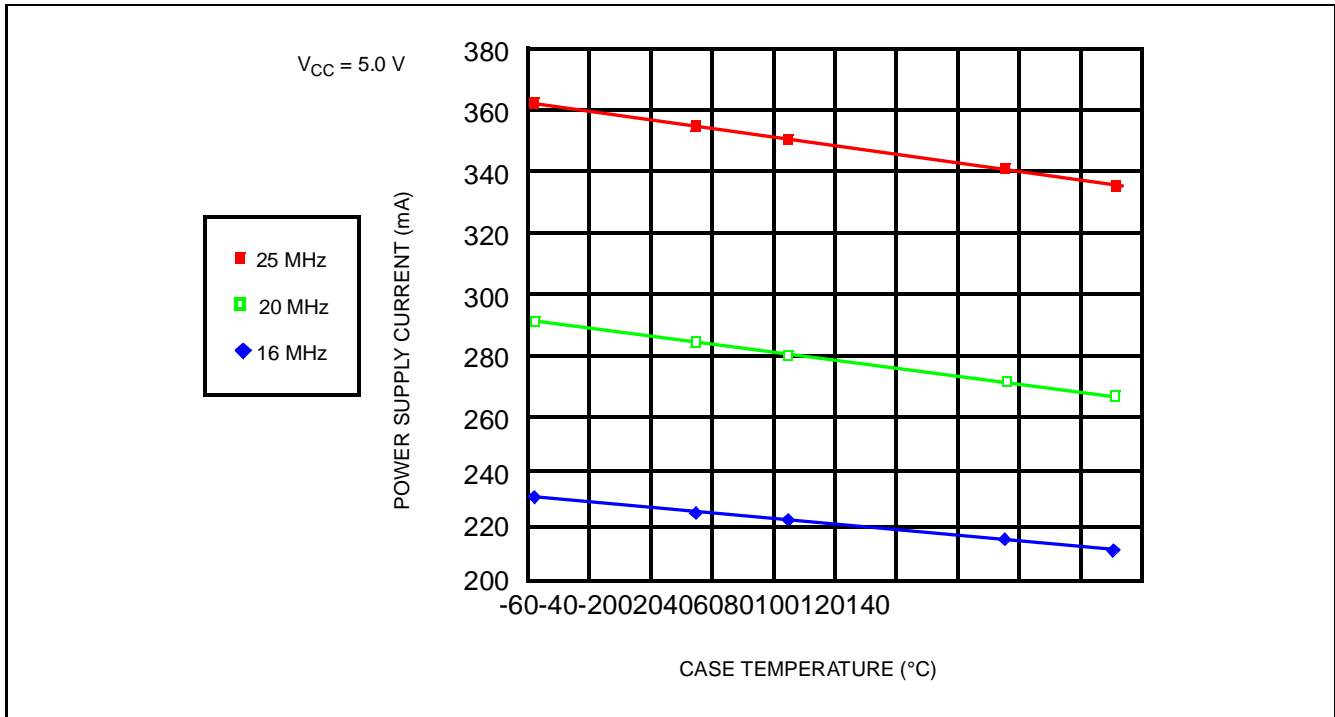
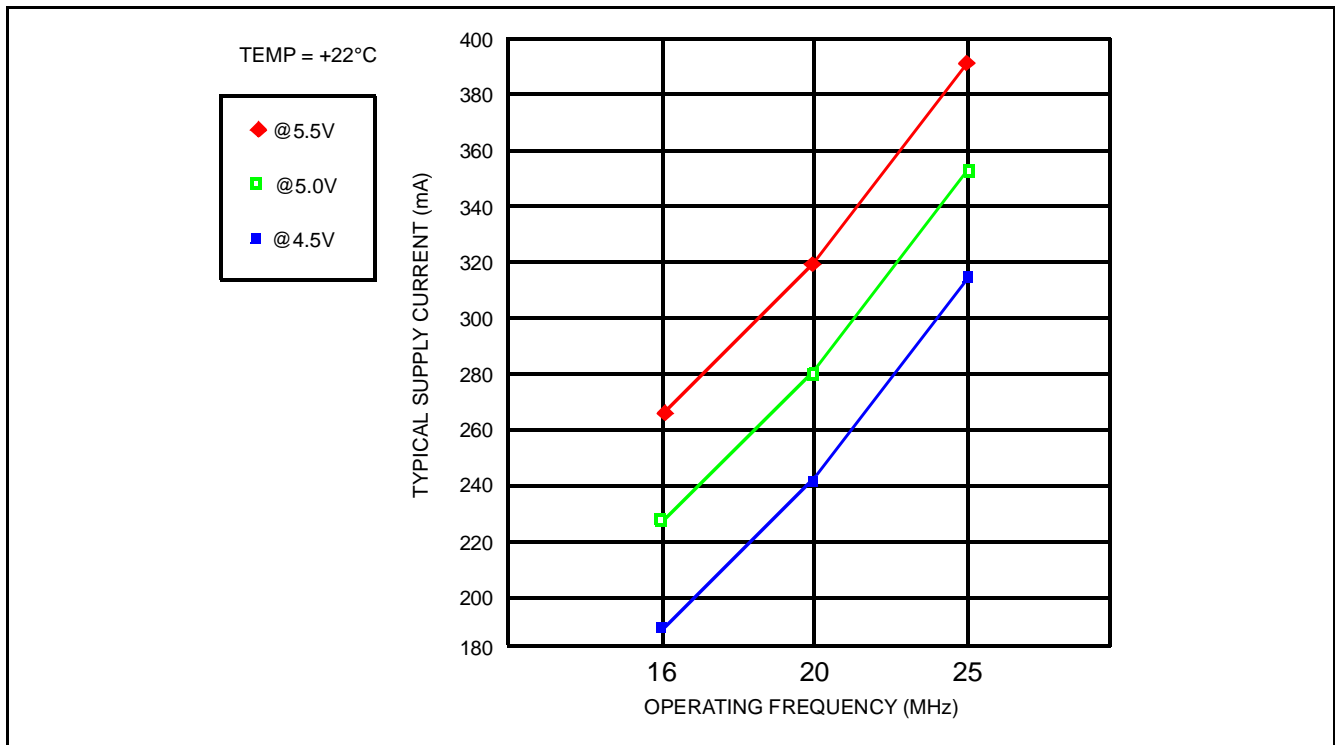
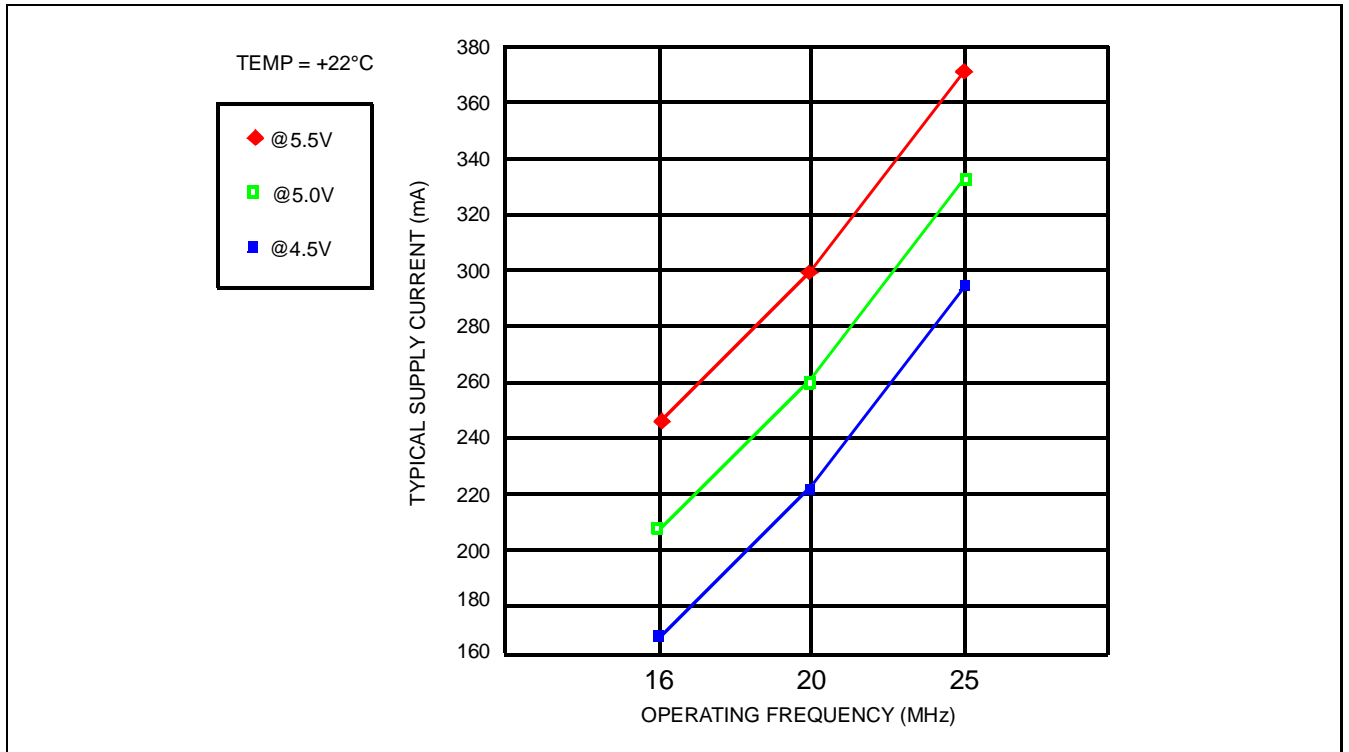
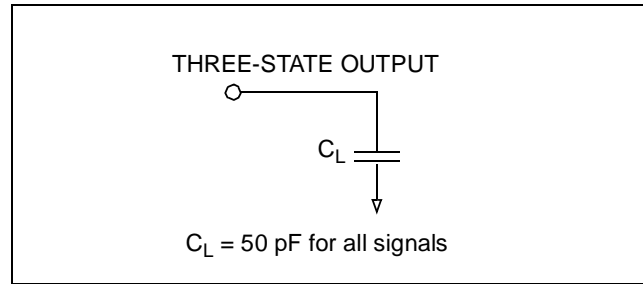

Figure 7. Typical Supply Current vs. Case Temperature
Figure 8. Typical Current vs. Frequency (Room Temp)
Figure 9. Typical Current vs. Frequency (Hot Temp)
Figure 12. Test Load Circuit for Three-State Output Pins
Figure 7 shows typical supply current requirements over the operating temperature range of the processor at supply voltage (V_{CC}) of 5 V. Figure 8 and Figure 9 show the typical power supply current (I_{CC}) that the 80960KB requires at various operating frequencies when measured at three input voltage (V_{CC}) levels and two temperatures.
Figure 12 illustrates the load circuit used to test the
- Measured at worst case frequency, V_{CC} and temperature, with device operating and outputs loaded to the test conditions in Figures 12 and 13. Figure 7, Figure 8 and Figure 9 indicate typical values.